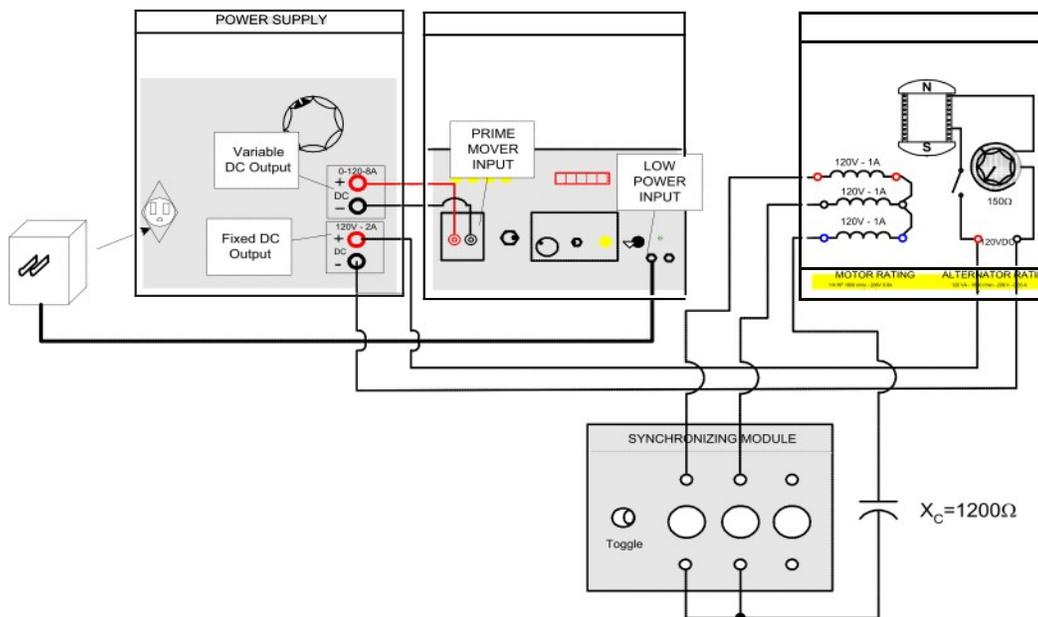

FIGURE 10.6
Step 1: Using your Synchronizing Switch, Capacitance, power supply and Synchronous Generator, connect the circuit shown in Figure 10.6.